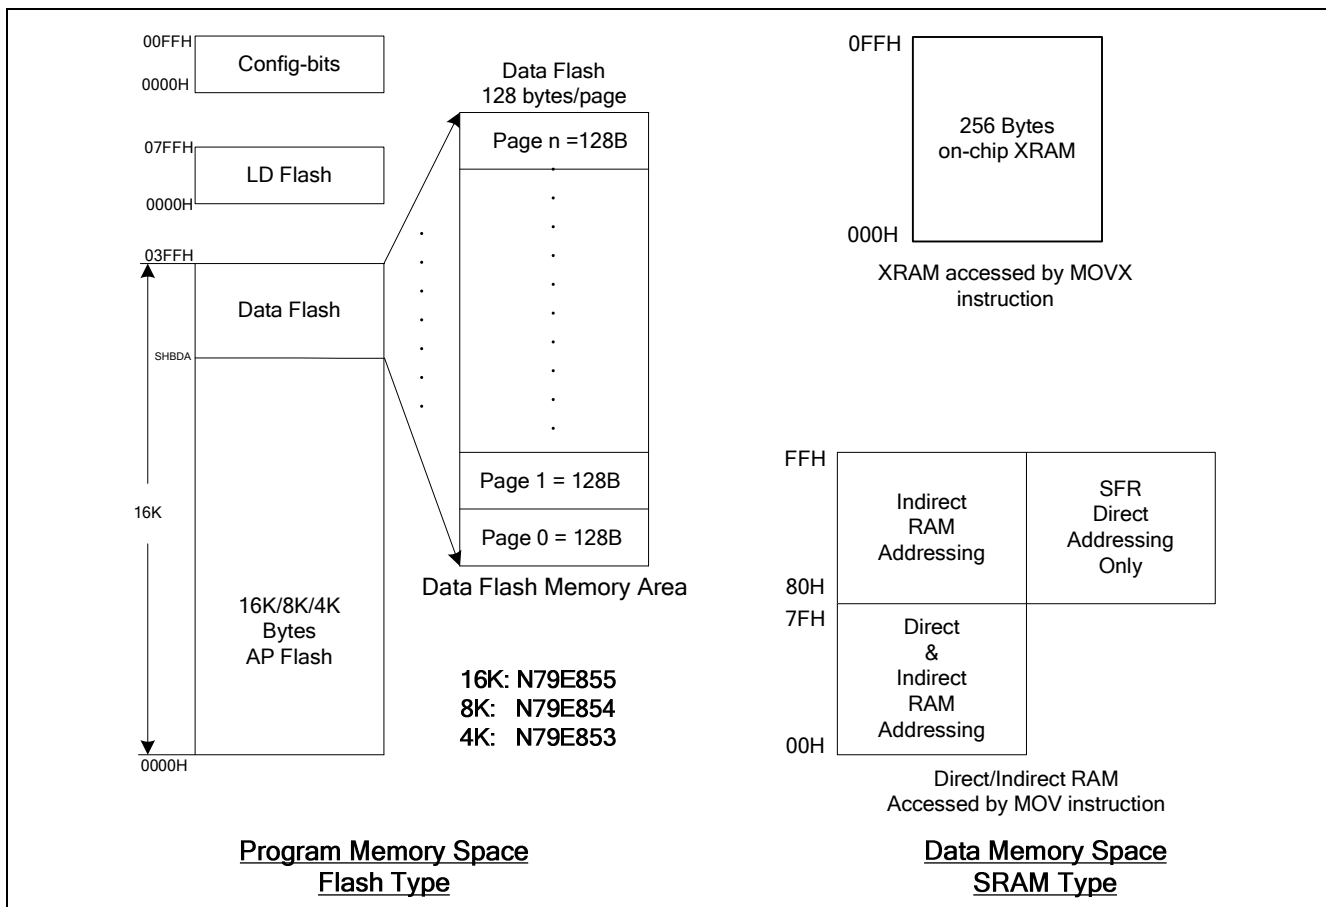

Figure 6-1 N79E855 Series Memory Map
**N79E855** series provide additional on-chip 256 bytes auxiliary RAM called XRAM to enlarge the RAM space. It occupies the address space from 00H through FFH. The 256 bytes of XRAM are indirectly accessed by move external instruction MOVX @DPTR or MOVX @Ri. (See the demo code below.) Note that the stack pointer may not be located in any part of XRAM. Figure 6-1 shows the memory map for this product series.